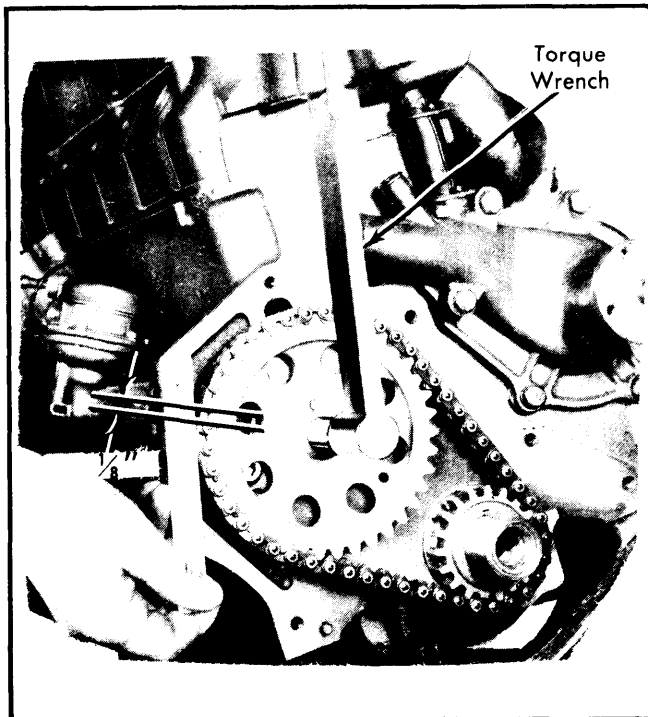

Fig. 12 Measuring Timing Chain Stretch
Checking For Stretch — 1) Position scale next to timing chain, to measure any movement of the chain. Place torque wrench with socket over camshaft sprocket lock bolt and apply torque in direction of crankshaft rotation to remove slack. See Fig. 12.
2) Torque should be 30 ft. lbs. with cylinder head installed and 15 ft. lbs. with head removed. Apply same torque in reverse direction and measure amount of chain movement. If movement exceeds $\frac{1}{8}$ ", replace timing chain. See Fig. 12.